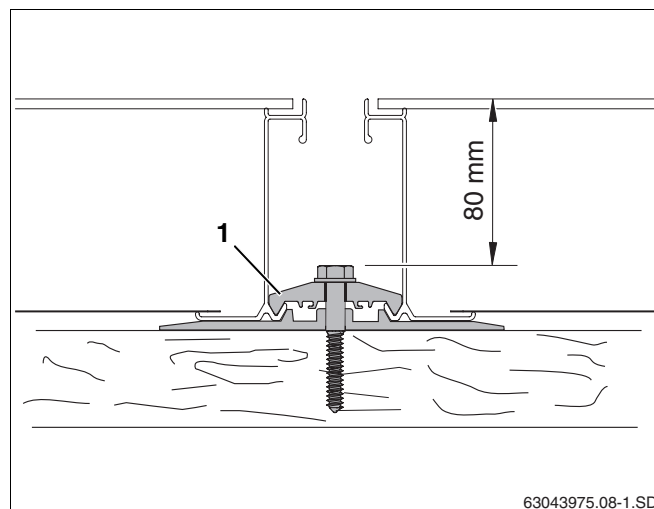

Fig. 27 Screwing in double-sided clamp
- ▶ Tighten the screw on the double-sided clamp (Fig. 27, **Item 1**). Use a size 10 socket wrench with a minimum length of 80 mm for this purpose.